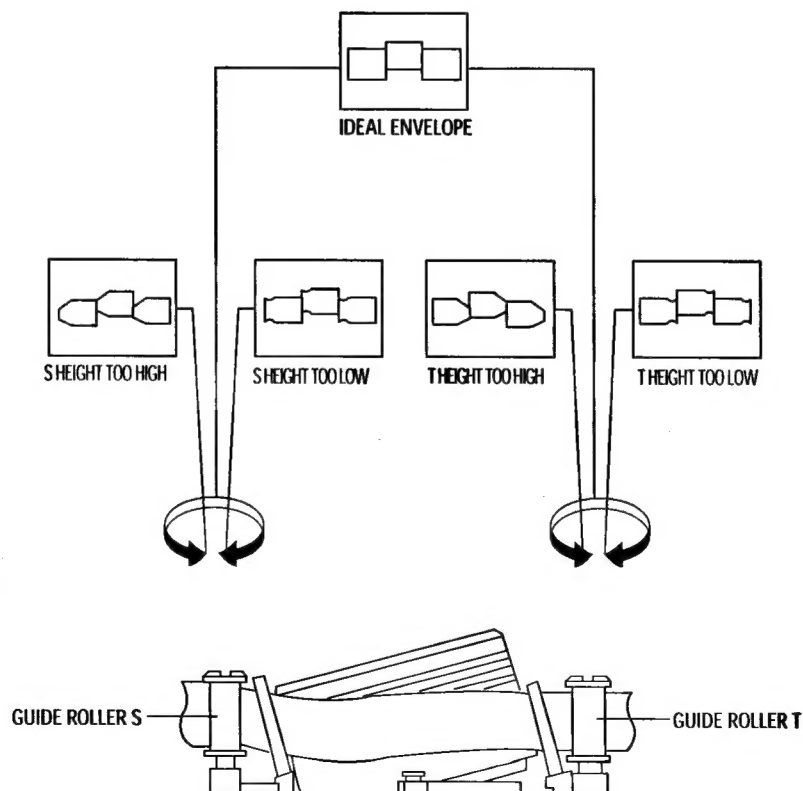

Fig. 2-8 Guide Roller S, T Height Adjustment
- 8) Turn the guide roller heads with a flat head (  ) driver to obtain a flat video RF envelope as shown in Fig. 2-8.